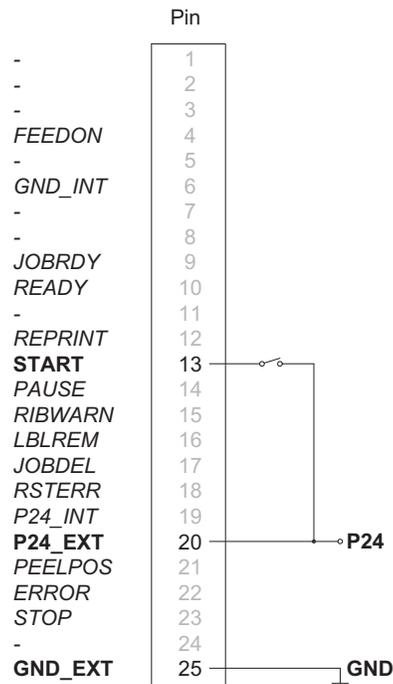
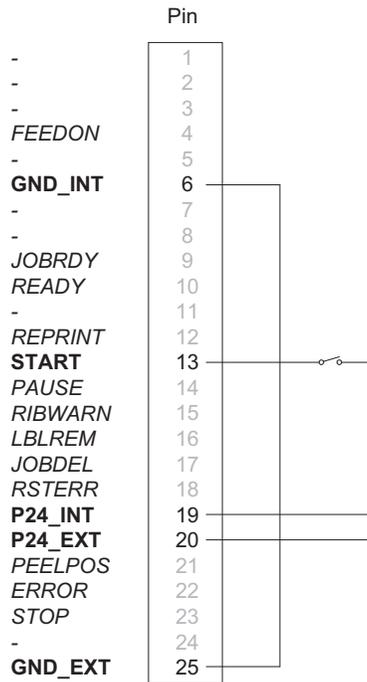

Figure 49: Operation with external voltage supply
Figure 50: Operation using the internal voltage
- External circuit as shown in Figure 49 / Figure 50